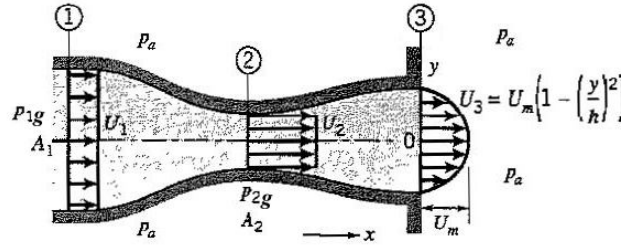

Figure P3.40
3.40 Air of constant density ρ flows steadily into a rectangular duct of constant width W , as shown in Figure P3.40. There is inflow over area $A_1 = 3hW$ and outflow over area $A_3 = 2hW$. Area $A_2 = hW$. Across A_1 and A_2 the velocities are constant and equal to U_1 , and U_2 , respectively, as shown. Across A_3 the velocity distribution is parabolic with a maximum value of U_m . Over area A_1 the gauge pressure p_{1g} , over area A_2 the gauge pressure is p_{2g} , and over area A_3 the pressure is atmospheric. There are no losses. Can't apply Bernoulli here!